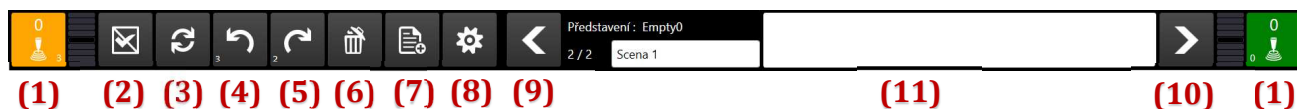

FIG. 24: BOTTOM BAR IN AUTOMATIC MODE
Joystick keys (see Fig. 24) serve for assigning the axes to the orange or the green joystick. Number in the top right corner of the joystick keys signals the number of devices assigned to the relevant joystick.
- By pressing the Cancel Selection key (see Fig. 24 - (2)), labelling of all axes will be cancelled
- By pressing the Delete Selection key (see Fig. 24 - (4)), labelling of all axes will be deleted